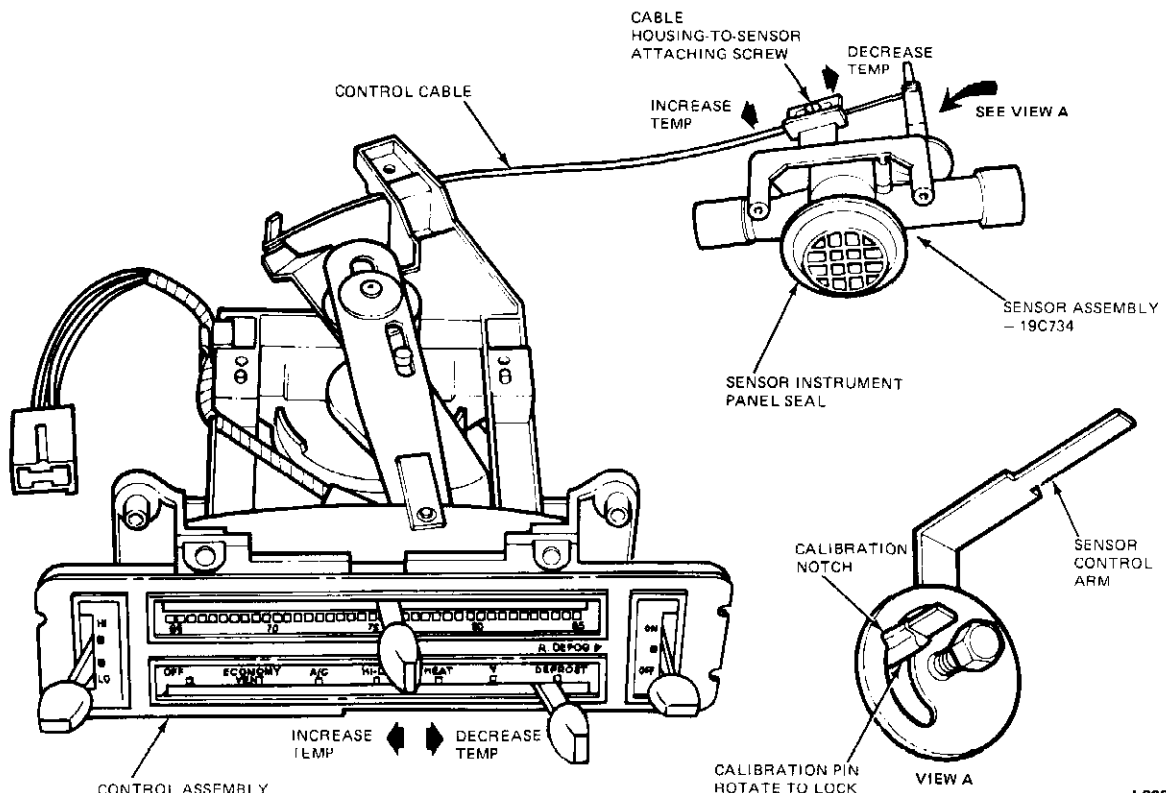

FIG. 17 A.T.C. System Temperature Calibration
1. Remove the instrument panel pad and visually determine which direction to rotate the sensor calibration locking pin (Fig. 17).
the calibration notch. Loosen the cable housing-to-sensor attaching screw, move the temperature control lever the desired amount and retighten the attaching screw (Fig. 17).